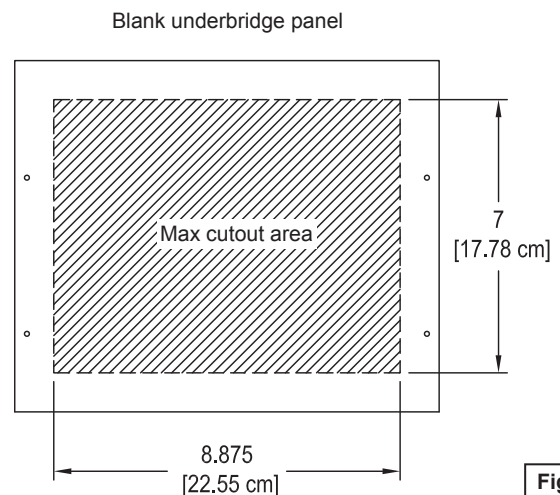

Figure 1
1. Before you begin, refer to the panel dimensions in **Figure 1** for the maximum recommended cutout area.